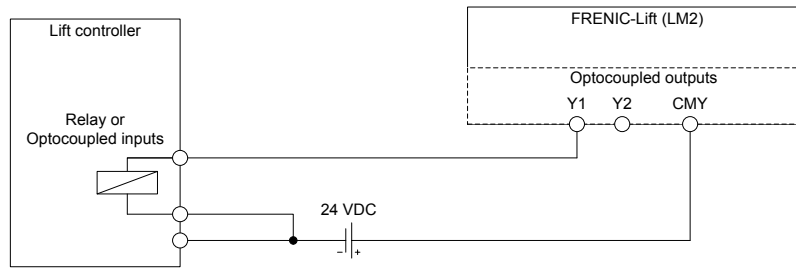

Figure 5.7: Connection using PNP (Source) Logic
- In case of Figure 5.7 example, the voltage OFF is 24 VDC (Power supply connected to CMY).*